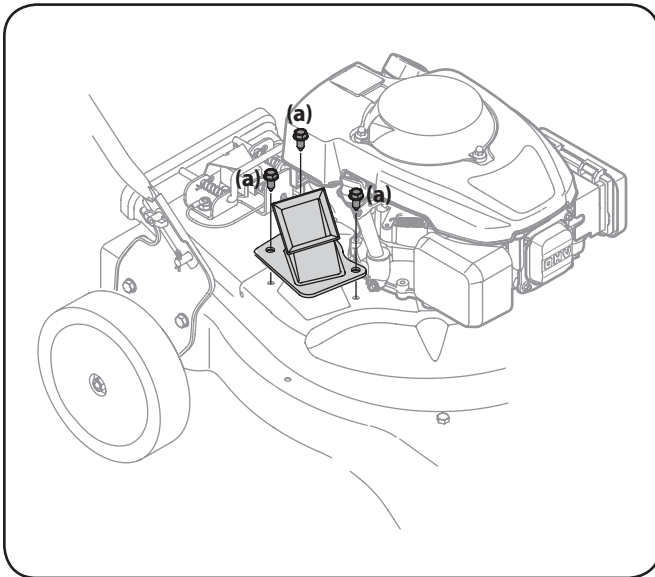

Figure 7-1
3. Remove the three hex cap screws (a) holding the chipper chute to the upper housing. See Figure 7-1.